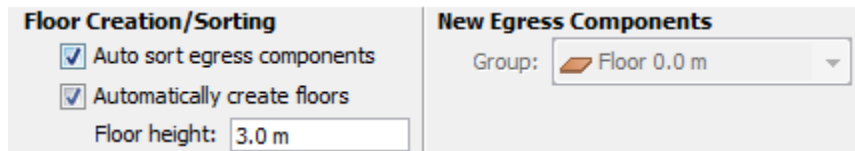

Figure 7: Floor Creation panel
When nothing is selected in the model, the **Floor Creation** panel is shown, as in Figure 7. This panel controls the automatic creation of floors and automatic sorting of new objects into floors.
- 2) Clear the selection so that the **Floor Creation** panel is visible (Figure 7). Selection can be cleared by clicking in empty space in the 3D, 2D, or Navigation view.